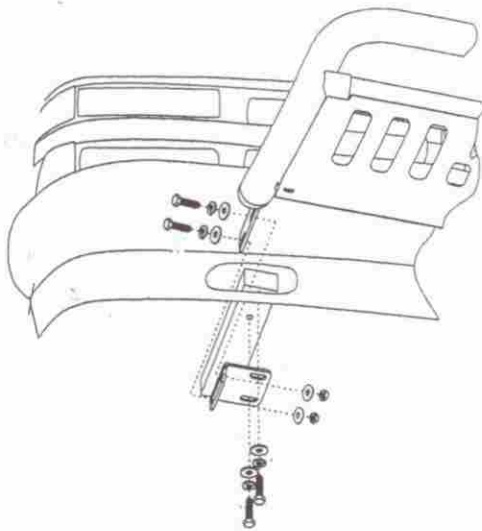

Figure 1
- Hang Mounting Bracket into position by partially threading front existing bolt into existing nut plate. Make sure rear tow hook hole is aligned with nut plate and insert existing rear tow hook bolt (Figure 1). Do not tighten at this time.
- Attach Bull Bar on the outer side of Mounting Brackets through tow hook opening in lower air dam. Use the included 12-1.75mm x 30mm Hex Bolts, 12mm Flat Washers, 12mm Lock Washers, and 12mm Hex Nut to secure Bull Bar to Mounting Brackets (Figure 1)..